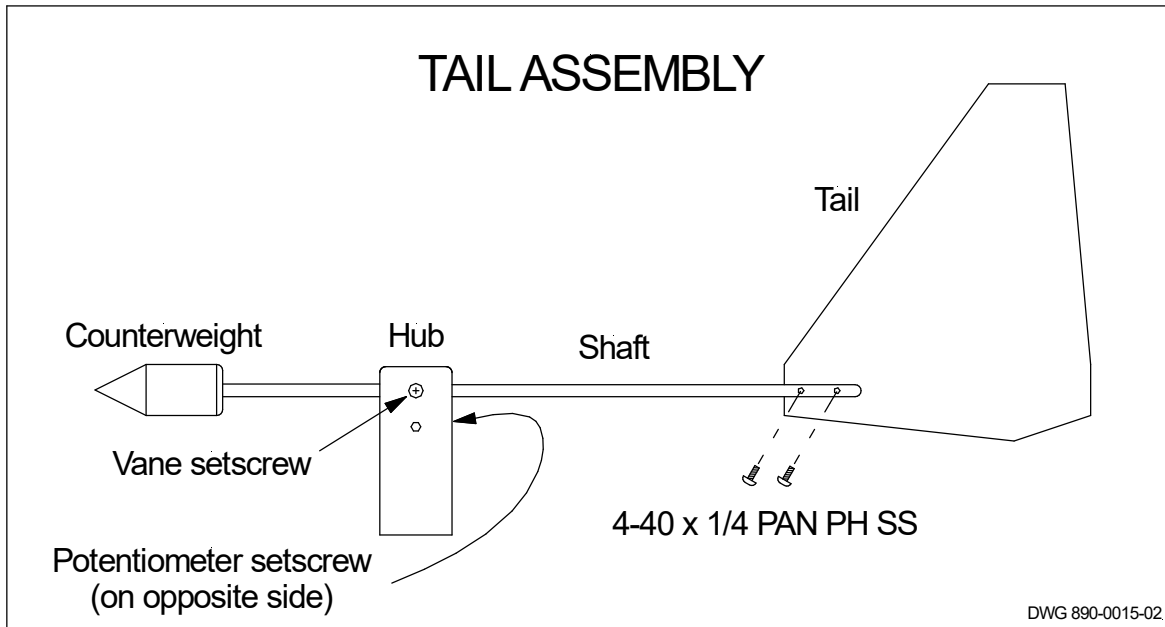

Figure 1
1. Turn the wind vane to check whether it moves freely. If necessary, remove the vane assembly by loosening the potentiometer set screw (Figure 1). Clean out any dust and then apply a very small amount of light oil to the potentiometer shaft. Follow the instructions in the Functional Tests (Section 10) to re-align the potentiometer and vane. *Note: The set screw requires a 1/16" Allen wrench.*
1. Using a 1/16" Allen wrench, loosen the potentiometer set screw located on one side of the hub (Figure 1).